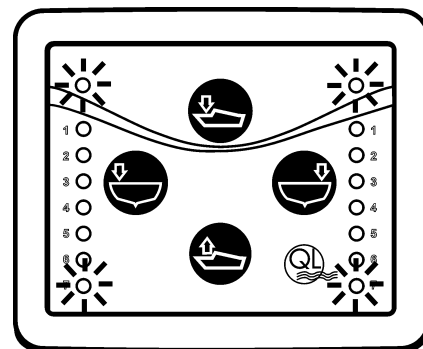

Fig. 22
5. The blades will go fully out, stop and then retract fully. Once this has been done in a proper way, the two upper and two lower LEDs on the control panel will flash twice. **See fig. 22.**